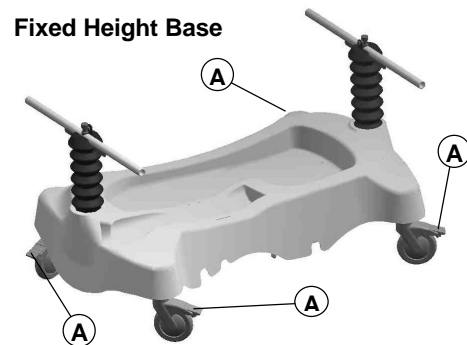

Figure 2.2
- ___ Lubricate where required (see Maintenance Manual, figure 2.2, page 12).